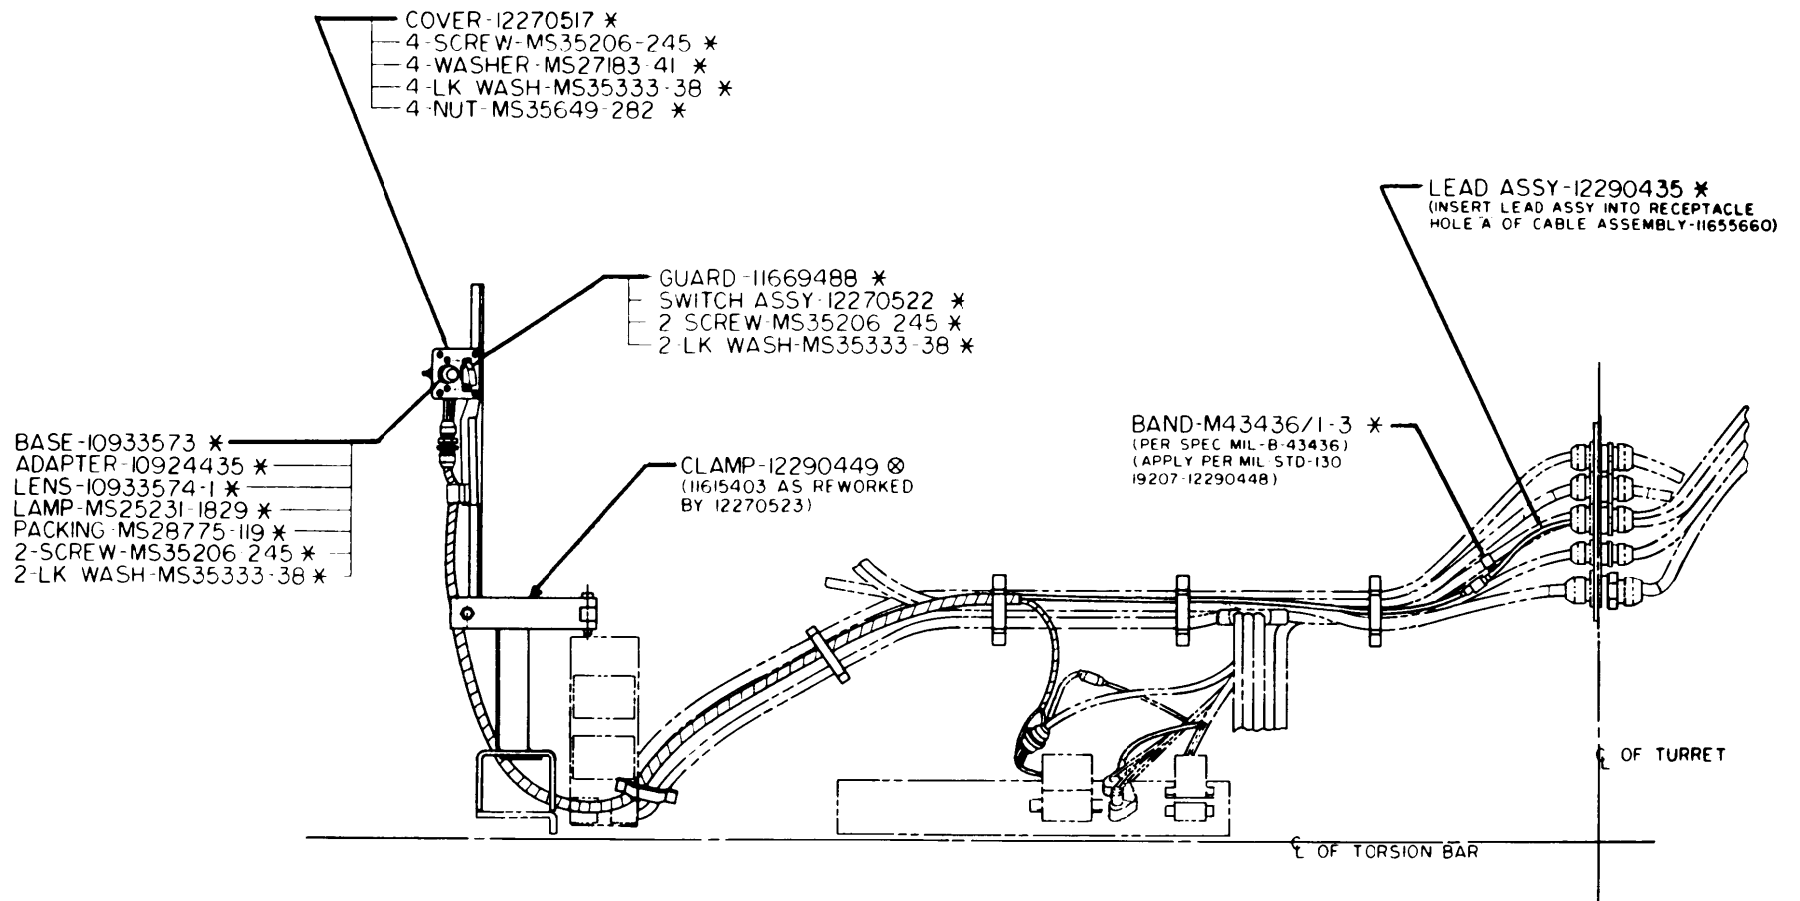

Figure 44. Front View of Harness Kit Installation for M48A5
- (1) Assemble smoke generator switch bracket (refer to section II).
- (2) Rework the fire extinguisher clamp assembly 11615403 located on the right side of the driver's compartment (refer to figures 44 and 46).
- (3) Install the previously assembled switch bracket assembly to the reworked fire extinguisher clamp 12290449 using four screws MS907 26-9, four lockwashers MS35333-40, four flat washers MS27183-10, and four nuts MS51968-2. Temporarily leave the lower rear screw loose in order to secure the harness later (refer to figures 44 and 45).
- (6) Route the kit harness 12270526 along the existing harness to the air cleaner blower motor relay. Disconnect the relay receptacle and connect the kit harness spliced jumper lead into the relay circuit (refer to figures 44 and 45).
- (7) Secure the receptacle and excess cable with two straps MS3367-6-9 (refer to figure 44).
- (8) Route the single lead on the kit wiring harness along the existing harness up to the starter harness receptacle (refer to figures 44 and 45).
- (9) Remove the electrical disconnect access plate and disconnect the starter harness receptacle from the bulkhead. Remove the existing filler rod and contact from pin location "A" and insert lead assembly 12290435 contact into this location. Reconnect the receptacle connector to the bulkhead and install the access plate (refer to figures 44, view D).
- (11) Remove and discard the existing identification band of the starter cable assembly and apply identification band M43436/1-3 with the new part number 12290448. (refer to figures 44 and 47).